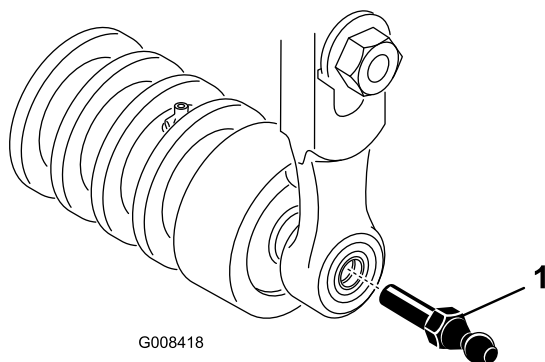

Figure 16
- F. Install the motor mount to the left end of the cutting unit with the (2) allen head screws previously removed. Torque screws to 12–15 ft–lbs. (16–20 N·m).
5. Thread a ball stud into each end of the cutting unit front roller (Figure 16).